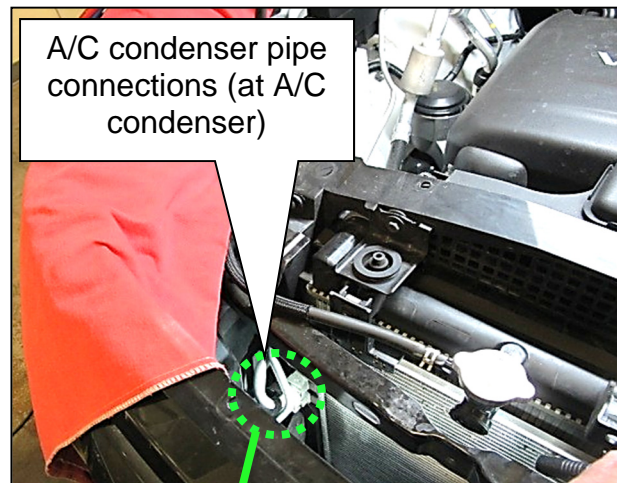

Figure 14
12. Locate the A/C condenser pipe connections at the A/C condenser (Figure 14).